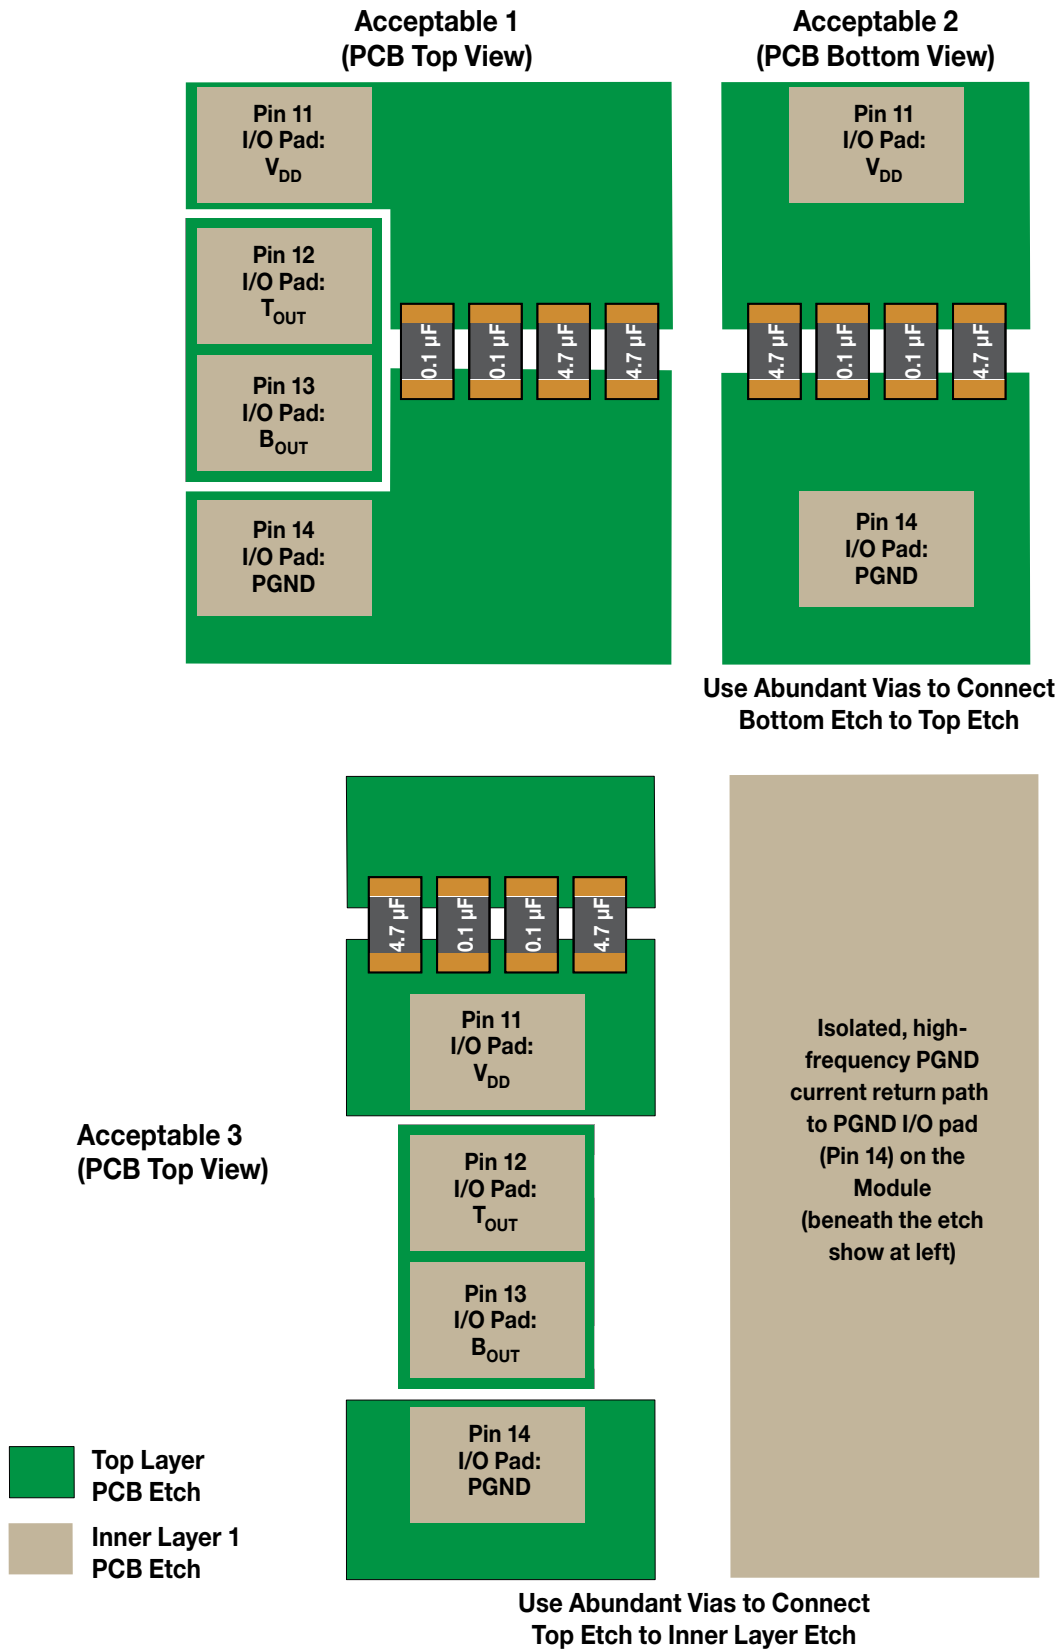

Figure 21. Recommended V_{DD} -to-PGND Power Supply Bypassing (Not to Scale)
The power supply pins and return pin of the FBS-GAM02-P-C50 require proper high frequency bypassing to one-another in order to prevent harmful switching noise-related spikes from degrading or damaging the internal circuitry in the FBS-GAM02-P-C50 module. The more critical bypassing situation is related to the V_{DD} supply to PGND (Pin 14), which bears the high rate-of-change voltages and currents associated with the internal eGaN[®] power switches interacting with a load. It is recommended that a minimum of two (2) 4.7 microfarad ceramic capacitors, one (1) 1.0 microfarad ceramic capacitor and one (1) 0.1 microfarad ceramic capacitor, all with 100 V_{DC} ratings, be connected from V_{DD} to PGND. All four of these capacitors should be low ESR types, if possible. It is strongly recommended that these capacitors inscribe the smallest possible loop area between V_{DD} and PGND so as to minimize the inductance related to this loop area. Figure 21 illustrates three instances of recommended and acceptable V_{DD} -PGND bypassing, as implemented in PCB copper etch. Regardless, different end-use implementations will require different V_{DD} bypass capacitor placements, and it is strongly recommended that the chosen bypassing scheme be evaluated in hardware for its effectiveness.
Figure 28. Maximum Dead Time (t_{dt}) vs. Switching Frequency (f_{sw}) vs. Module Case Temperature (T_c), $I_o = 10 A$, Half-Bridge Configuration (Refer to Fig. 21).